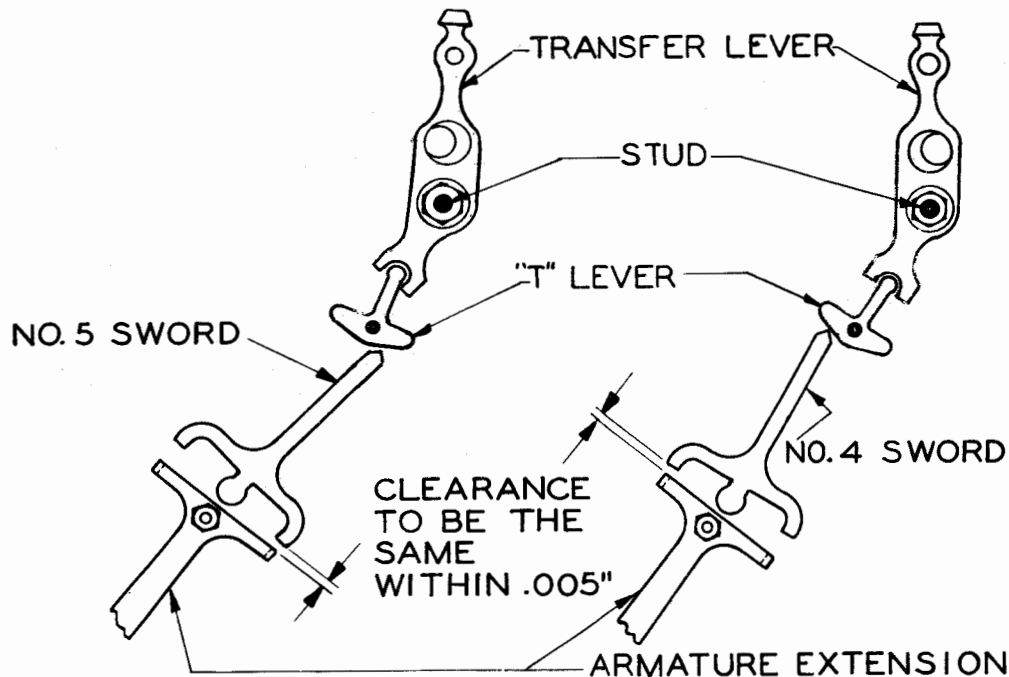
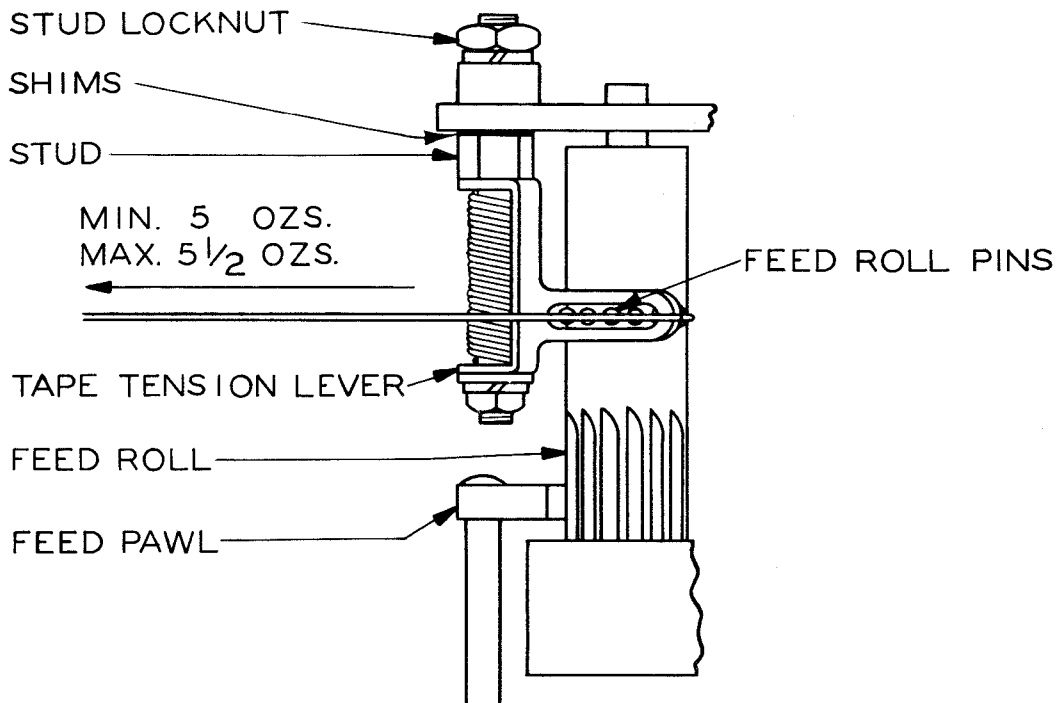

Figure 5
Figure 7
2.10 Punch-unit Bracket: The clearance between the engaging surfaces of the No. 5 sword and the armature extension with the armature unoperated should be the same within 0.005 inch as that between the No. 4 sword and the armature extension with the armature operated when the No. 4 transfer lever is in its left (spacing) position, the No. 5 transfer lever is in its right (marking) position, and the selector cam sleeve in the stop position. (See Figure 5.)
2.11 The Transfer Levers should be positioned so that their forked arms line up in the same vertical planes with the corresponding selector T levers. For identification of parts see Figure 5.
2.21 Tape-tension-lever Spring: The tape-tension lever should bear against the feed roll with a pressure as indicated in Figure 5 measured at the end of the lever and perpendicular to a plane passing through the center of the tension-lever stud and the end of the lever. (See Figure 7.)